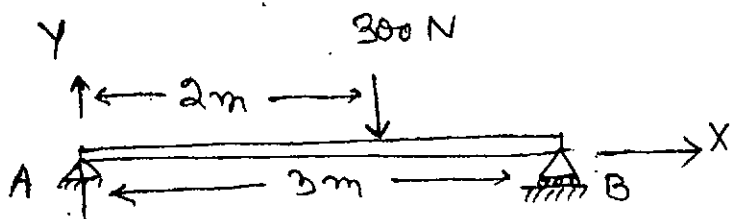

Fig. 6
- (b) The simple beam supports a concentrated load of 300 N at 2 m from the left support. Compute maximum deflection and its position. EI is constant throughout the beam shown in fig. 6. 10